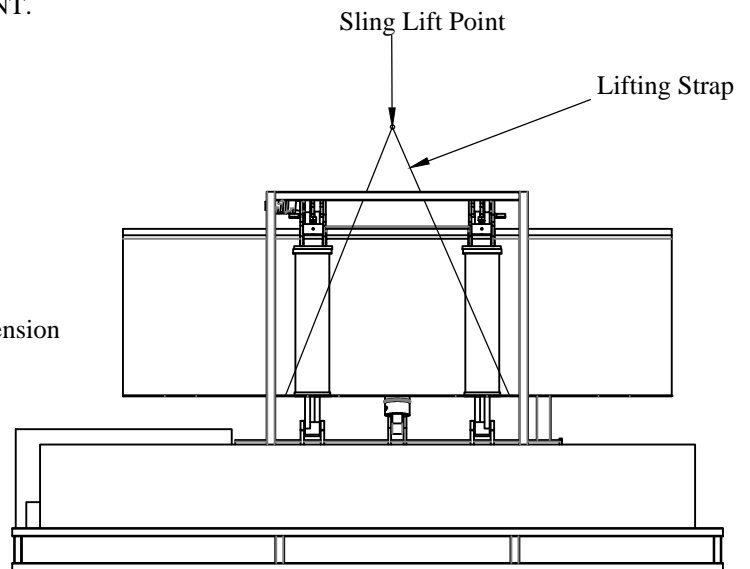
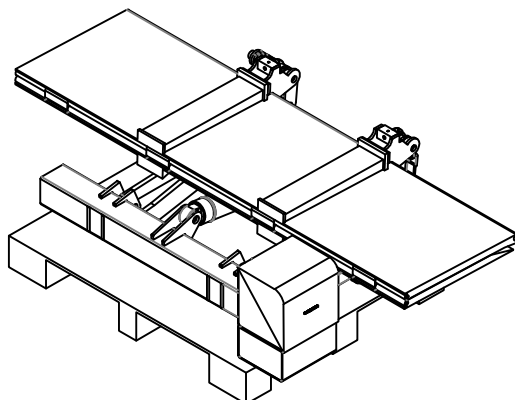

Figure 5: Sling Lift Point.
Figure 6: Position For Mounting.
3. Use lifting strap to raise liftgate from pallet. Carefully lift the platform using two lifting straps (Figure 5) and position horizontally with the platform on the top side (Figure 6).